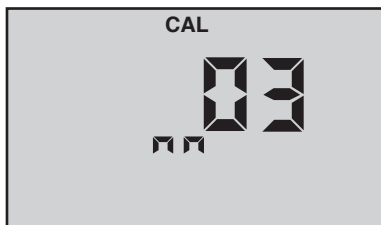

Figure 14
7. Press  to accept the change (new month), (see Figure 14).